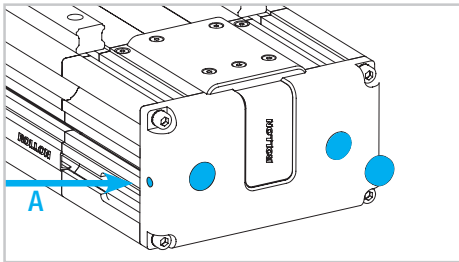

Fig. 9
- 10) Remove the protection caps on the fixing screws and loosen the A set screws (Fig. 9).